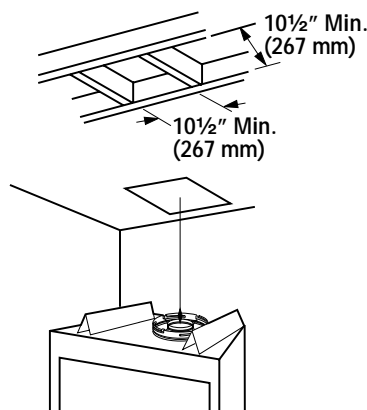

Figure 16
A. Frame ceiling opening - Use a plumb line from the ceiling above the appliance to locate center of the vertical run. Cut and/or frame an opening, 10-1/2"x 10-1/2" (267mm x 267mm) inside dimensions, about this center mark (*Figure 16*).
C. Frame ceiling opening - If the vertical route is to penetrate a ceiling, use plumb line to locate the center above the appliance. Cut and/or frame an opening, 10-1/2" x 10-1/2" (267 mm x 267 mm) inside dimensions, about this center (refer to **Figure 16 on page 12**).